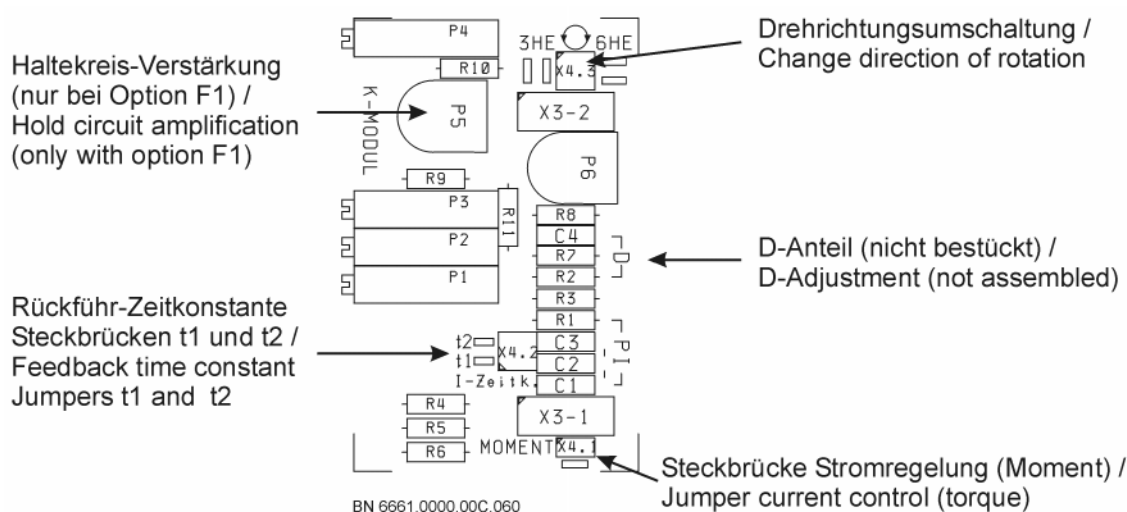

Fig. 12: Location of the jumpers on the customer module
- Figure 12 shows the location of the jumper.
Figure 12 shows the location of the jumpers. The following applies:
If a D circuitry is to be connected to the speed feedback (PID controller), the components C 2 and R 10 must be installed on the customer module. Their locations are printed on the board (see fig. 12). The values must be determined by experiment. 100 nF and 100 kΩ can be regarded as guide values.